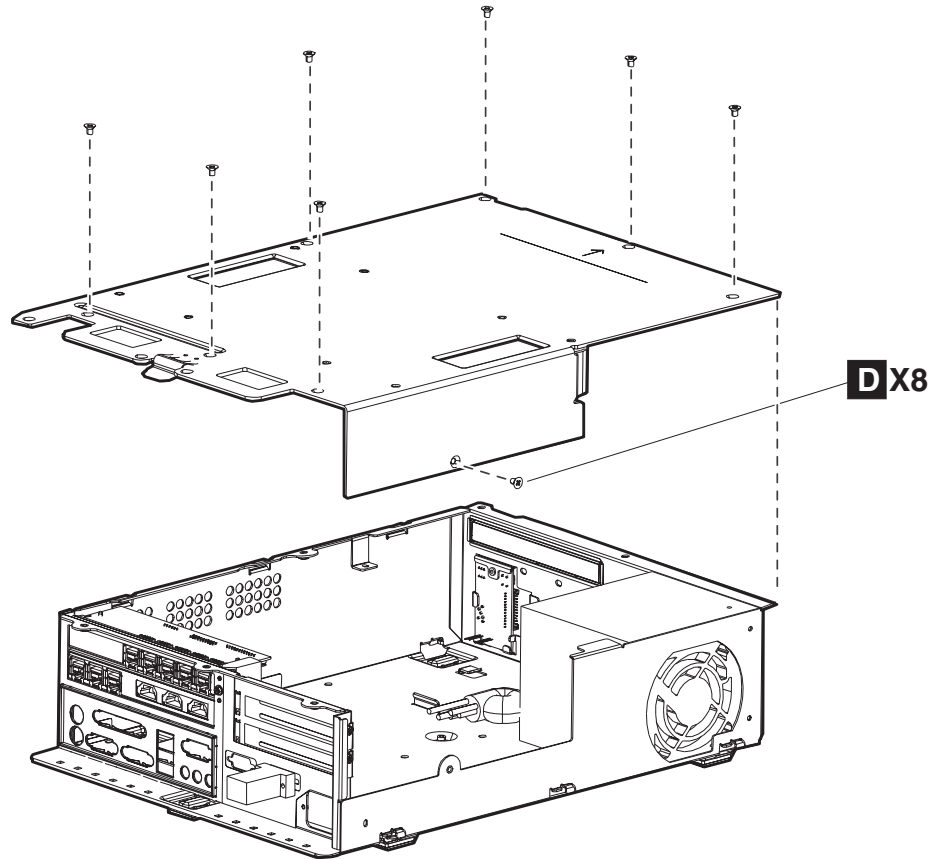

Figure 20. Top plate screws
2. See Figure 20. Locate and remove the eight screws (**D**) holding the top plate.